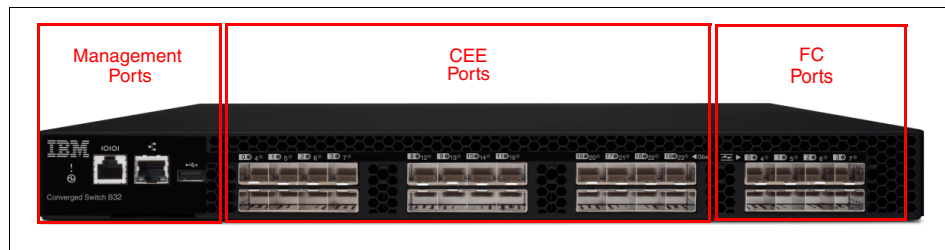

Figure 2-2 IBM Converged Switch B32 port layout
- ▶ Provide up to 8 Gbps performance with 8 Fibre Channel ports and line-rate performance for 24 10 Gigabit Ethernet ports, with a port layout as shown in Figure 2-2